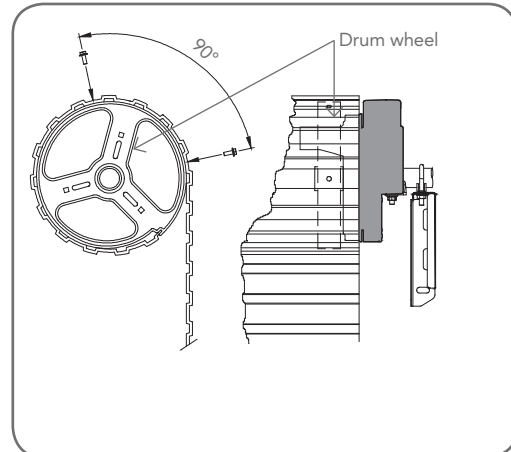

fig 07
1. With the door in the fully closed position, mark the curtain (**Fig. 07**) on both ends of the door.